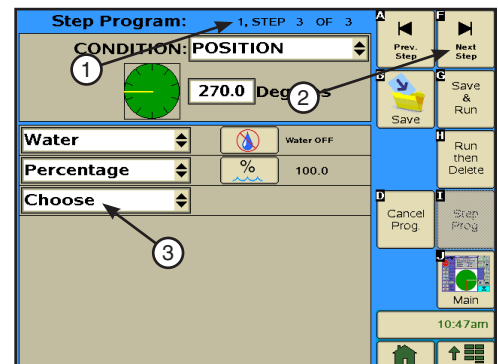

Figure 113-2 1. Program #1, Step 3 of 3
3. Push the **Next Step** button until you reach the last step of the program. Refer to Figure 113-2.